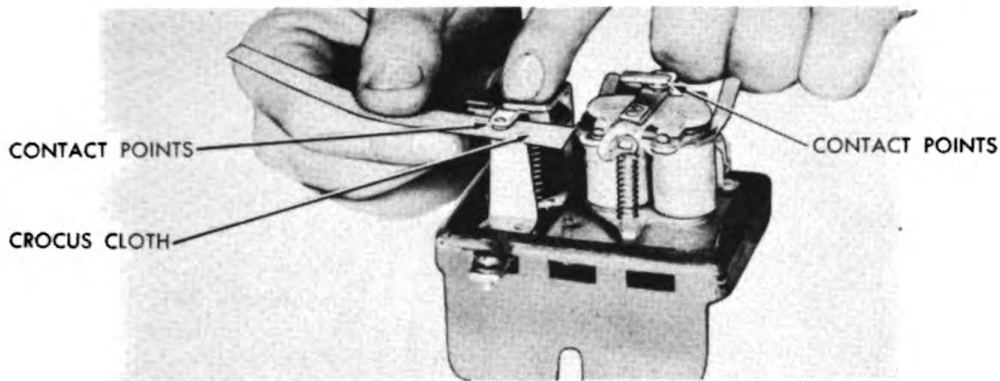

Figure 249. Cleaning Contacts on Voltage Regulator.
- a. Remove the regulator cover and inspect the regulator visually for: (1) evidence of burning or abnormal high temperatures at the coils; contacts, insulation, external terminals, or any other points; (2) loose connections resulting from poor soldering; (3) loose nuts on the bottom of the magnet cores; (4) loose screws, **NOTE:** (All screws must have lockwashers); (5) broken or altered carbon resistor. Repair or replace any of the items mentioned above that may be faulty.
- b. Inspect the contacts. If they are dirty or burned, they can be cleaned with a piece of crocus cloth. See figure 249. Do not use sandpaper or a file. After cleaning, the contacts should be cleaned, if possible, with refined carbon tetrachloride, to remove any dirt or grease; after which a piece of clean linen tape or hard paper, such as kraft wrapping paper, should be pulled between the contacts to remove any fine lint or dirt.